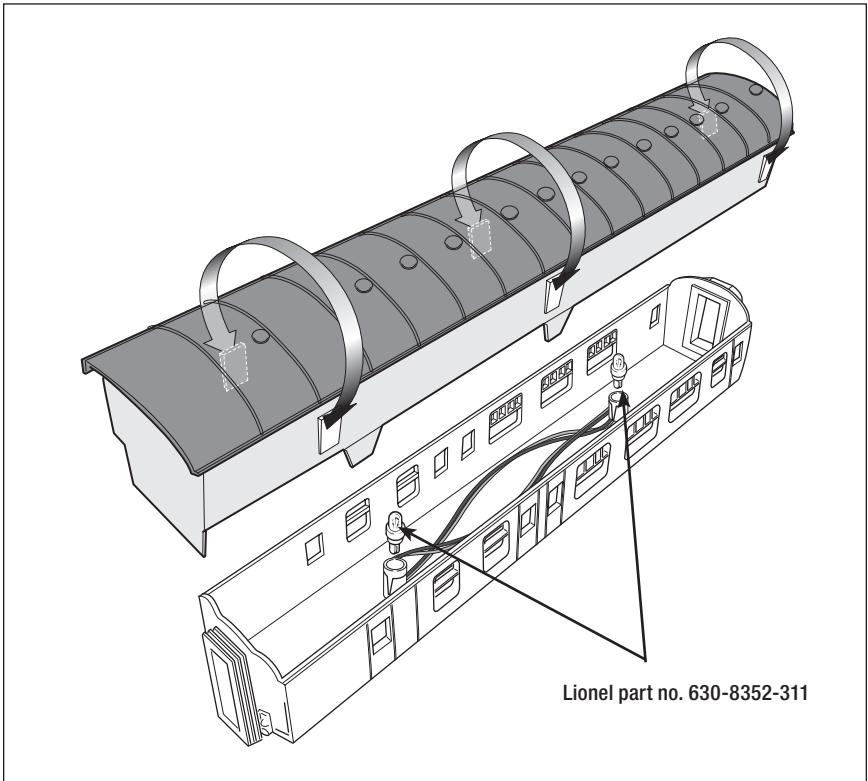

Figure 7. Passenger car lamp replacement
1. As illustrated in Figure 7, press in the six window insert tabs.
4. Replace the roof and window insert. Refer to Figure 7.